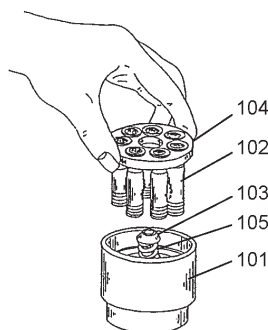

Figure 6. Rotating Group Disassembly (5V-12015-L).
2. Remove the rotating group by turning shaft (301) slowly, while pulling the cylinder barrel (101) from the housing.
3. Identify (number) each pump piston shoe assembly (102) and its respective bore in the cylinder barrel (101) and shoe retainer (104) for easy reassembly.
4. See Figure 6. Lift out shoe retainer (104) with pistons (102) and remove the fulcrum ball (103) and shoe retainer spring (105).
See Figure 6.